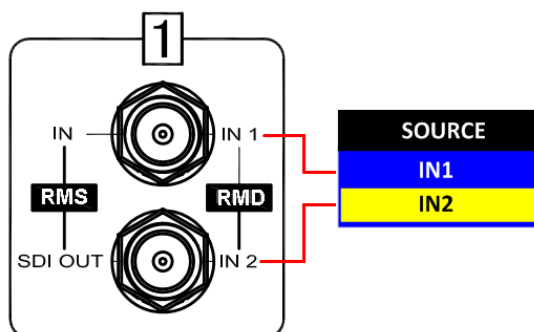

Figure 4.1-4 Correspondence between Source Menu and Interface
Take the No.1 screen of a RMD4342N for example, the one-to-one correspondence between the signals in the source menu list and the interfaces in the back panel are shown in Figure 4.1-4:
- Particularly, there is only one SDI input connector for each screen of RMS4342N, as shown in Figure 4.1-4, the input signal connector is labeled as RMS-IN, so there is no input selection source menu for RMS4342N. Then if you press IN button of a screen, it will just activate the corresponding status information at the left corner of the screen.